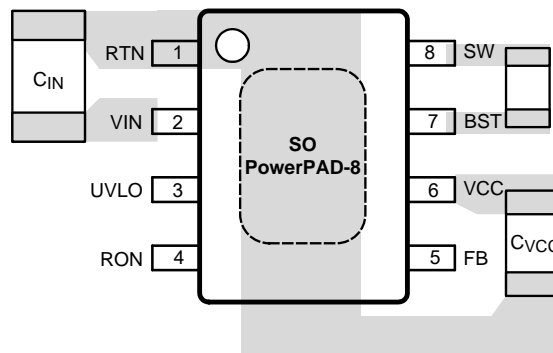

Figure 20. Placement of Bypass Capacitors
1. C_{IN} : The loop consisting of input capacitor (C_{IN}), V_{IN} pin, and RTN pin carries switching currents. Therefore the input capacitor should be placed close to the IC, directly across V_{IN} and RTN pins and the connections to these two pins should be direct to minimize the loop area. In general it is not possible to accommodate all of input capacitance near the IC. A good practice is to use a $0.1\mu\text{F}$ or $0.47\mu\text{F}$ capacitor directly across the V_{IN} and RTN pins close to the IC, and the remaining bulk capacitor as close as possible (Refer to Figure 20 Placement of Bypass Capacitors).
2. C_{VCC} and C_{BST} : The V_{CC} and bootstrap (BST) bypass capacitors supply switching currents to the high and low side gate drivers. These two capacitors should also be placed as close to the IC as possible, and the connecting trace lengths and loop area should be minimized (See Figure 20 Placement of Bypass Capacitors).